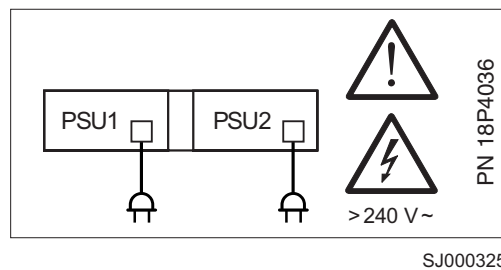

Figure 2. Linecord caution label
2. Verify that the linecord safety label shown in Figure 2 is installed on the switch's power supply.